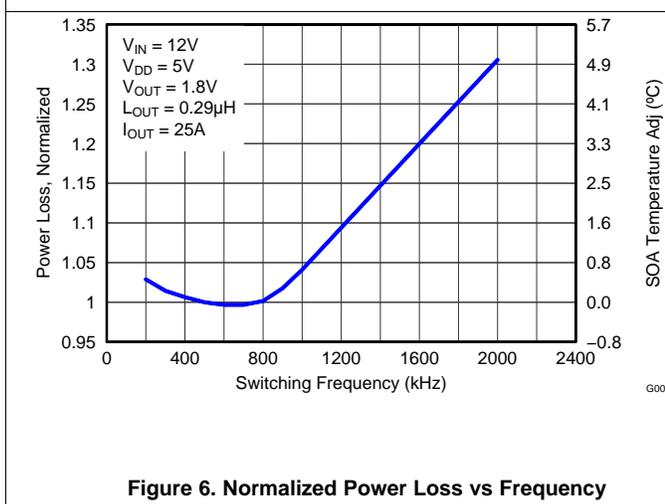

Figure 6. Normalized Power Loss vs Frequency
- Normalized Power Loss for switching frequency  $\approx$  1.04 (Figure 6)
- SOA adjustment for switching frequency  $\approx$  0.7°C (Figure 6)